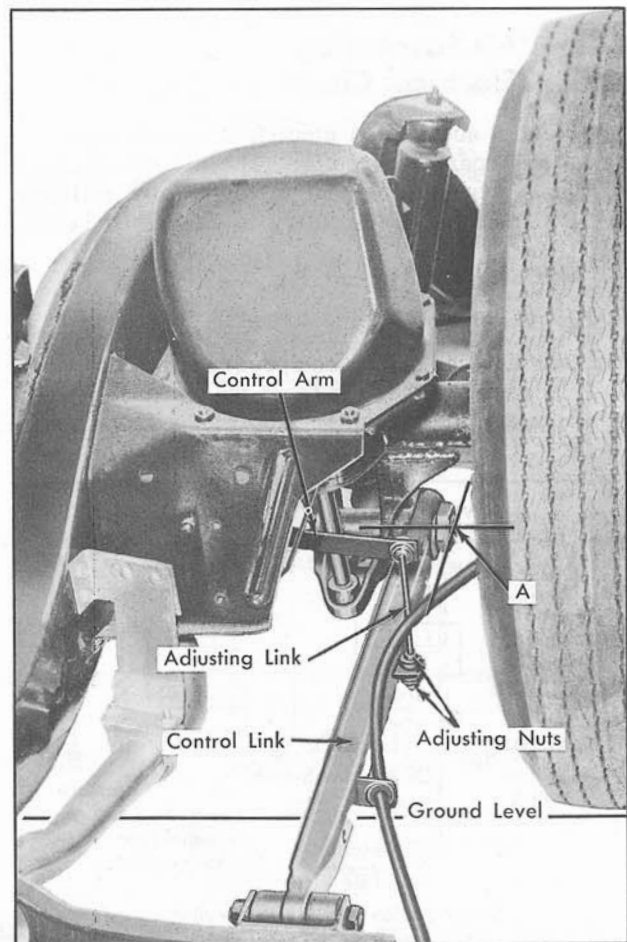

Fig. 4-31 Control Link Height
9. Measure distance from ground level to center line of spherical joint at rear of control link, See point "A", Fig. 4-31. Add 5 inches to this measurement to compensate for rebound distance, and note total. When control link is installed, front attaching bolt must be torqued with control link at design height.